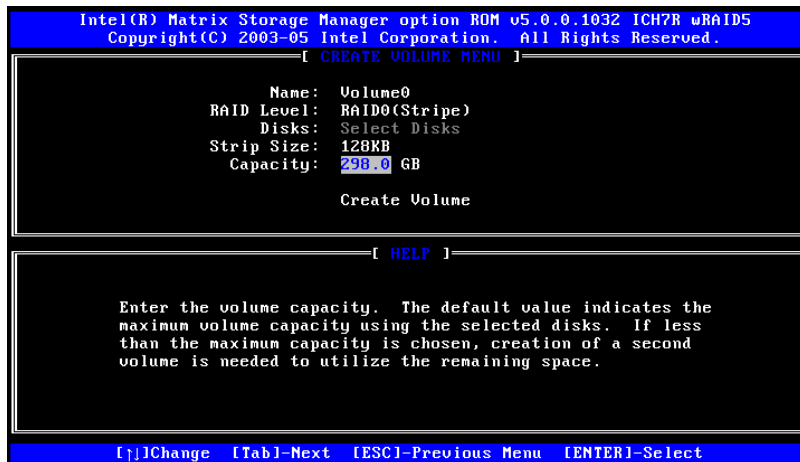

Figure G-5: Enter the Volume Capacity
Step 5: Enter the Volume Capacity. Enter the volume capacity, or press **ENTER** to accept the default capacity. See **Figure G-5**.